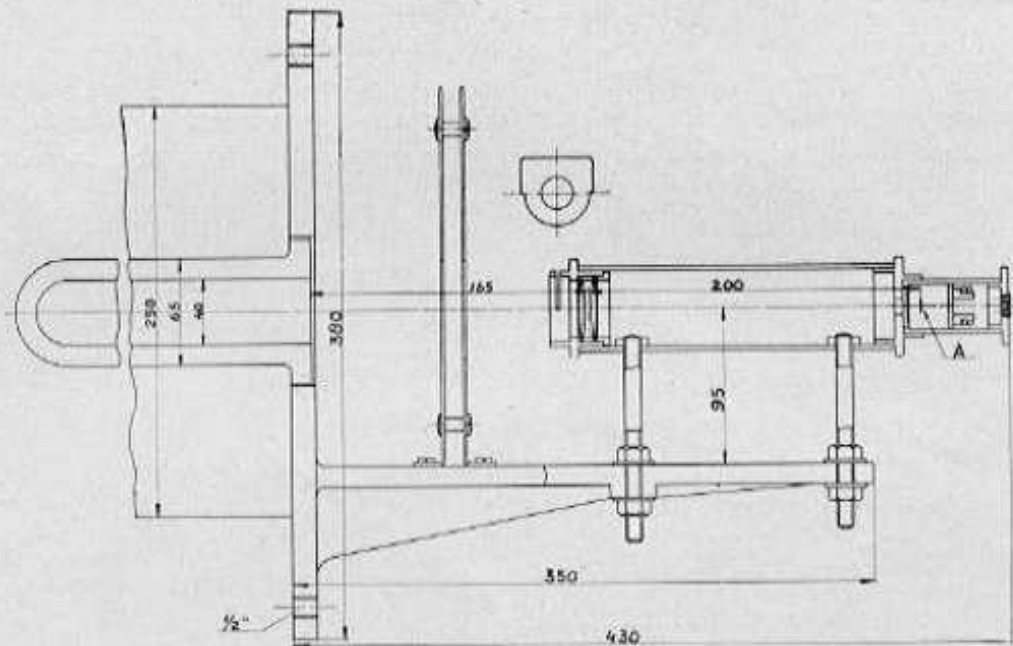

Fig. 2.
**Type A** consists of a tube of fire proof material, built into the furnace by means of a fireclay brick. The pyrometer, which is pointed to the closed end of this tube, is placed on a wall-bracket (fig. 2), fastened to the furnace. A system of lenses concentrates the radiation on to the front of the thermopile.
In fig. 2 we have indicated the principal dimensions of the parts which must be fixed to the furnace. In view of the different wall-thickness of furnaces, we supply the pyrometers